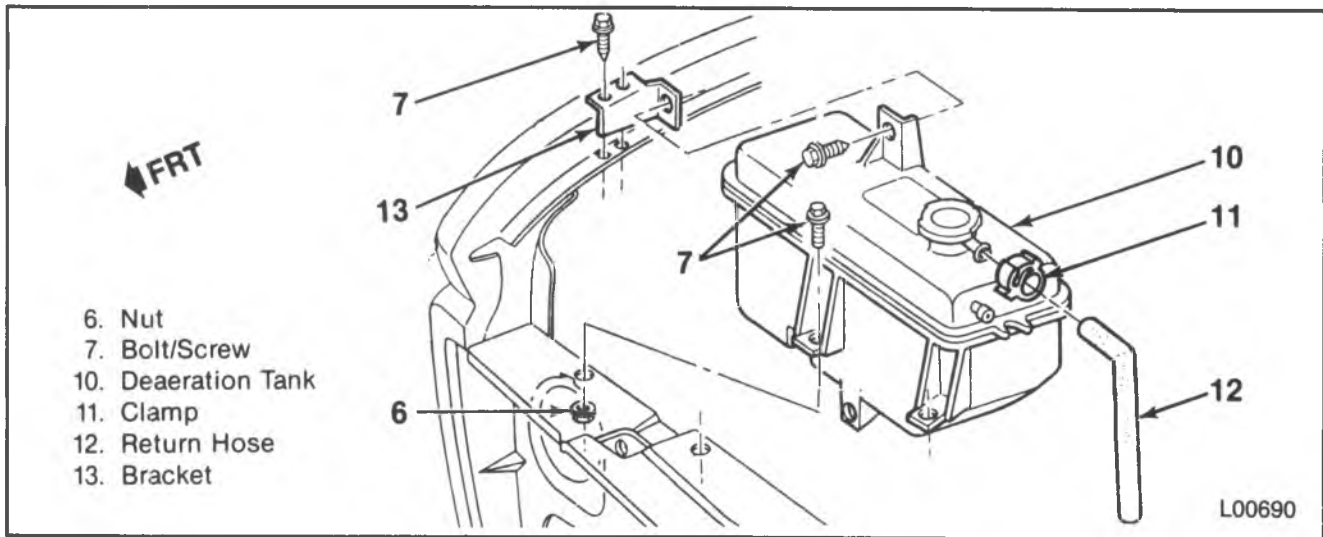

Figure 9 — Deaeration Tank Installation (G-Models)
- Bolts or screws (7) and nut (6) (figure 9) (G-Models).